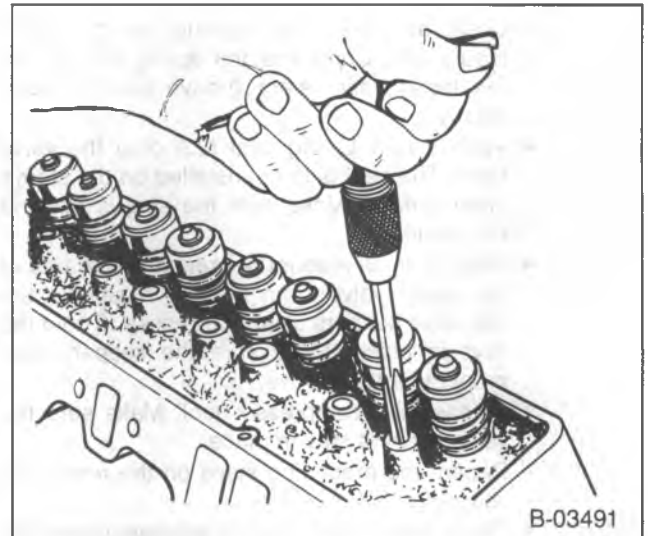

Figure 23—Reaming the Rocker Arm Stud Bore
- Ream the hole to the proper size for the replacement oversize rocker arm stud. Use J 5715 for 0.003-inch oversize studs; J 6036 for 0.013-inch oversize stud (figure 23).